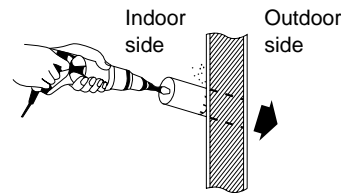

Fig. 8
- (4) Using a sabre saw, key hole saw or hole-cutting drill attachment, cut a hole in the wall. See Table 4 and Fig. 8.